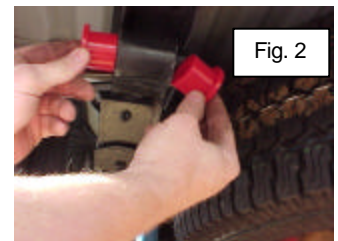

Fig. 2
4. Install the corresponding bushings into the spring eye and into the frame and lubricate with silicon or Teflon lubricant. Daystar Lubrethane Poly Lube is recommended. See figure 2 and 3. Install the steel sleeves if provided.